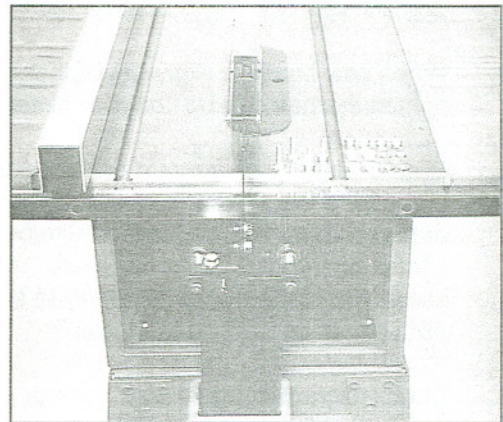

Fig. 21
1. Place four M8 flat washers over four M8x25 hex cap bolts and place on the saw table within easy reach. (Fig. 21)